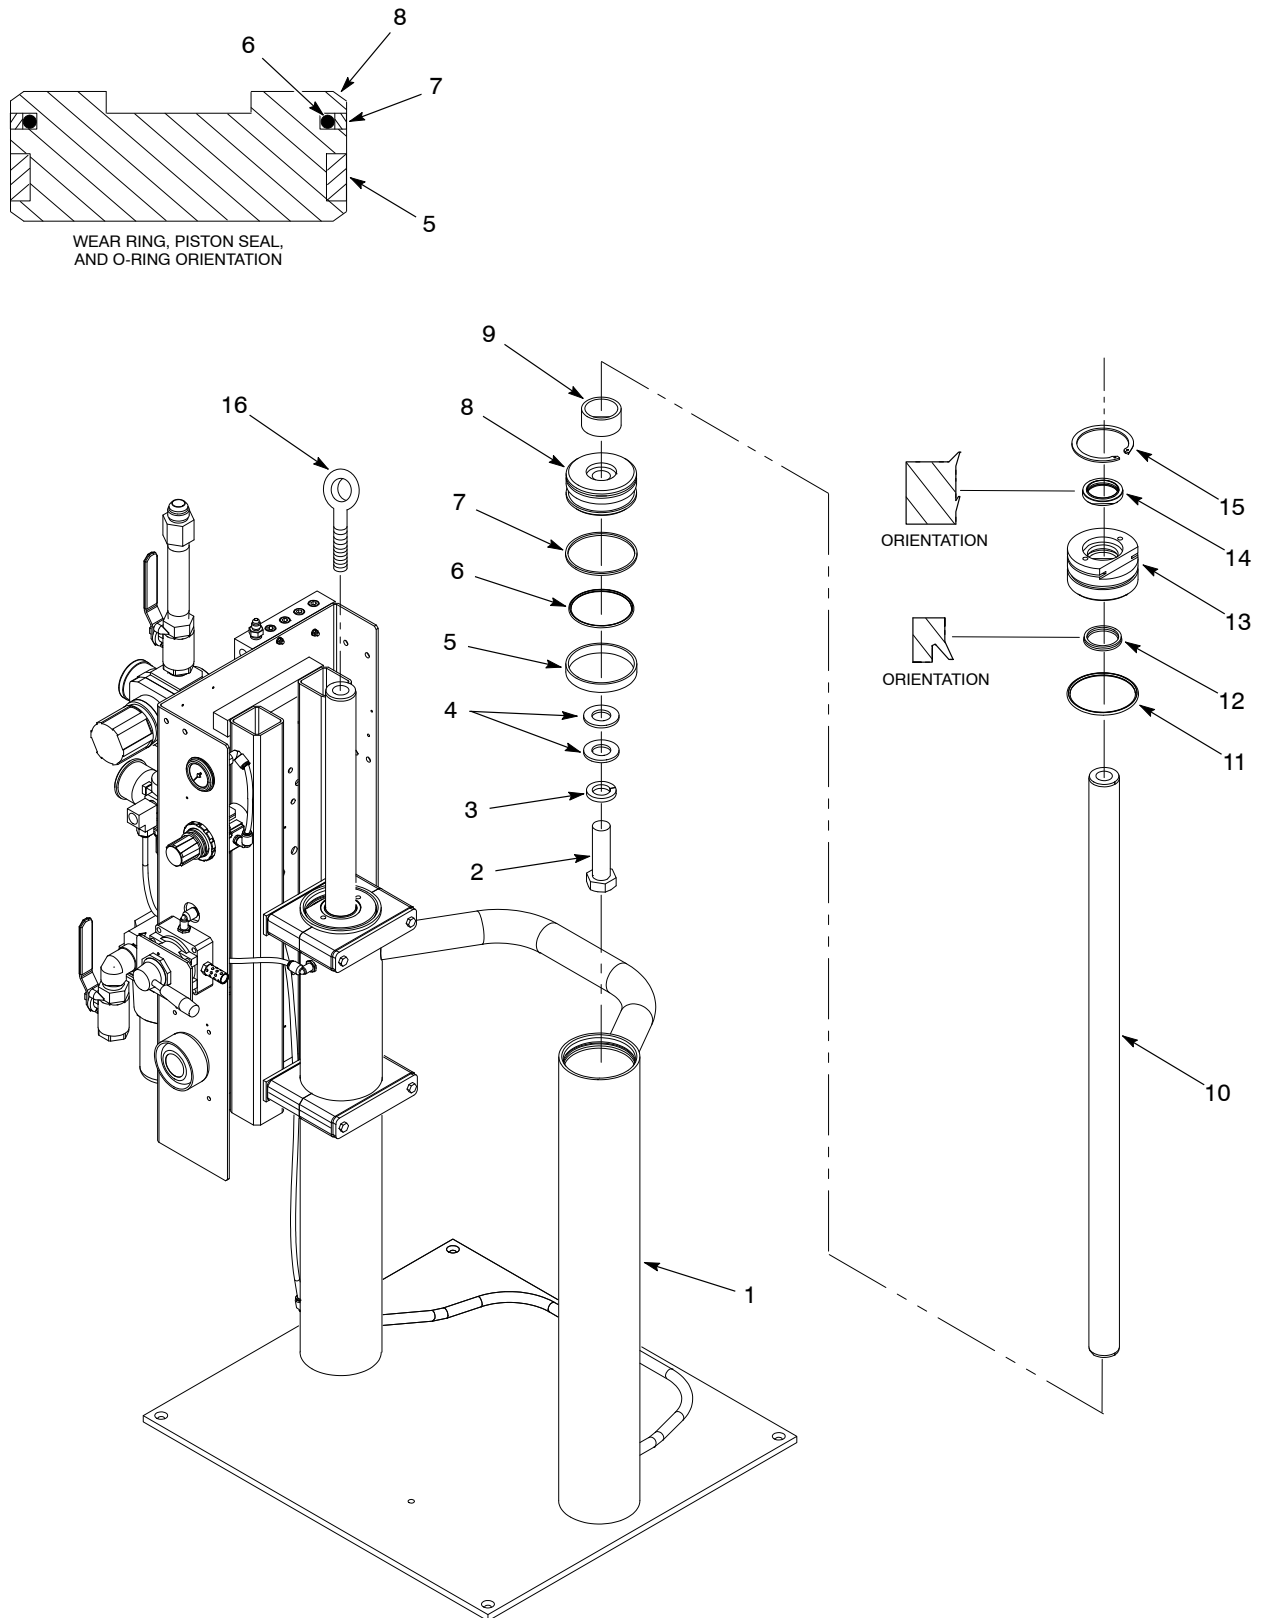

Figure 5 Rebuilding the Small Frame Cylinders
1. See Figure 5. Thread the $\frac{7}{8}$ -14 eye bolts (16) into each cylinder shaft (10).
- a. Note the orientation of the cylinder heads (13).
- b. Compress the retaining ring (15) using the ID snap ring pliers.
- c. Keep the retaining ring compressed and use the lifting device to remove the cylinder shaft (10) from the air cylinder (1).
4. Remove the eye bolts (16) from the cylinder shafts (10).
5. Remove the cylinder heads (13) from the cylinder shafts (10). Remove the wiper scrapers (14), packings (12), and O-rings (11) from each cylinder head (13).
6. Remove the hex head screws (2), lock washers (3), and flat washers (4) from the cylinder shafts (10).
7. Remove the pistons (8) and spacers (9). Remove the wear rings (5), piston seals (7), and O-rings (6) from each piston (8).
1. See Figure 5. Clean the inside walls of the air cylinders (1). Immediately apply a coating of O-ring lubricant to prevent corrosion.
2. Clean the pistons (8), cylinder heads (13), and cylinder shafts (10).
3. Inspect the cylinder heads (13) for damage to the cylinder head bearings and replace if necessary. The bearing is machined with the head.
4. Lubricate new packings (12) and new wiper scrapers (14) with petroleum jelly. Install these parts onto each cylinder head (13).
5. Lubricate new O-rings (11) with O-ring lubricant. Install an O-ring onto each cylinder head (13).
6. Inspect the pistons (8) for damage and replace if necessary.
7. Using O-ring lubricant, lubricate and install the O-rings (6), piston seals (7), and wear rings (5) onto each piston (8).
1. See Figure 5. Place a light coating of petroleum jelly on each cylinder shaft (10).
2. Install the spacers (9) onto each cylinder shaft (10).
3. Apply Loctite 271 to the threads of the hex head screws (2). Install the pistons (8) onto the cylinder shafts (10) using the flat washers (4) lock washers (3), and screws. Tighten the screws to 190–195 ft-lb (258–264 N•m).
4. Carefully guide the cylinder shaft (10) into the air cylinder (1) until it bottoms out. Install the remaining cylinder shaft in the same manner.